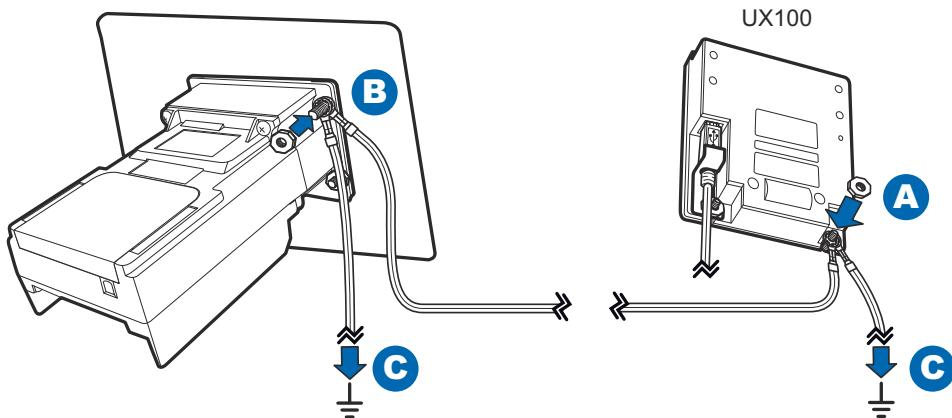

Figure 18 Grounding the UX300 and PIN Pad Units
- 2 Attach one end of the grounding cable (VPN WIR159-302-02-A) to the UX300 and connect the other end to a ground installation. See (C) in Figure 18.
- 3 Use another grounding cable (VPN WIR159-302-02-A) and attach one end to the PIN pad mounting bolt. Connect the other end to a ground installation. See (C) in Figure 18.
- 4 Connect the UX300 to the PIN pad with another grounding cable (VPN WIR159-302-01-A) using the same mounting bolts. See (A, B) in Figure 18.